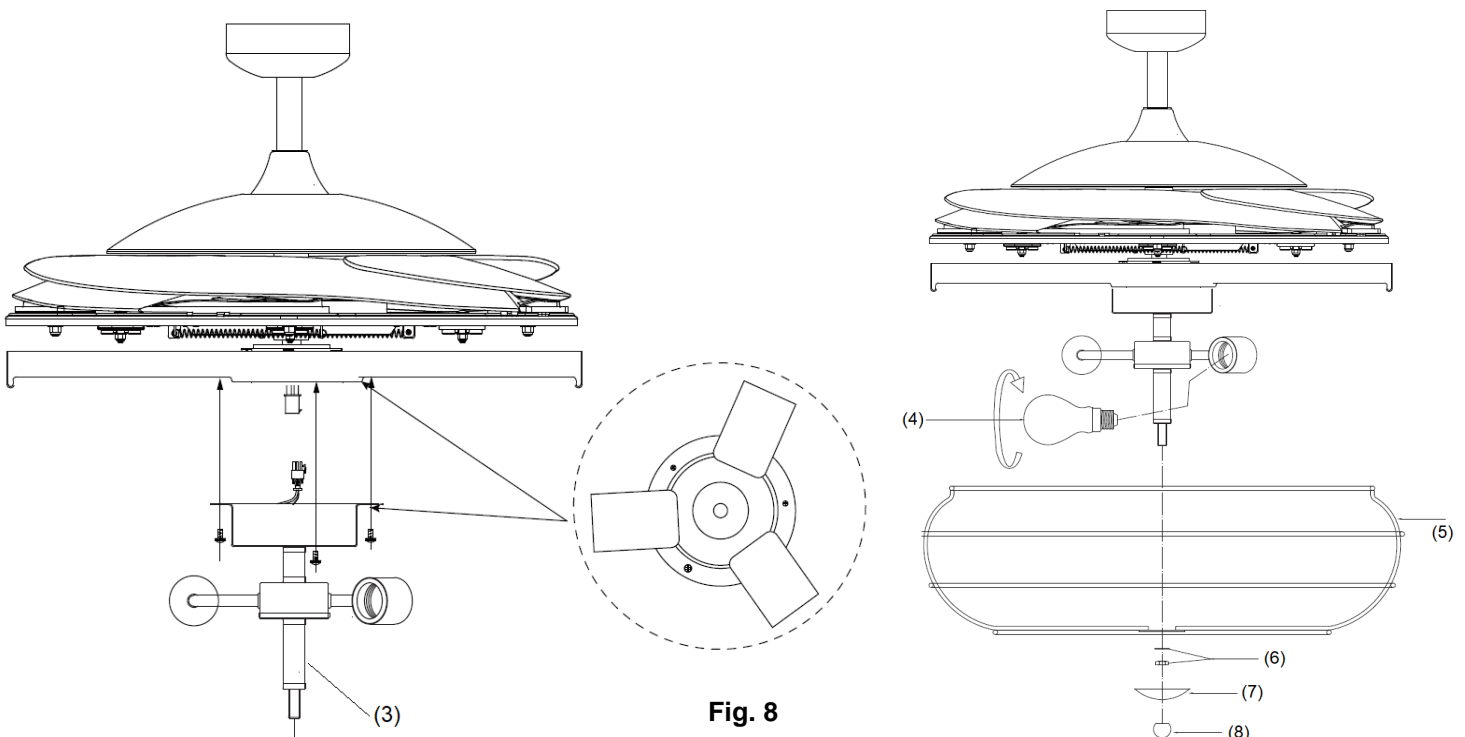

Fig. 8
4. Connect the quick connector to the lamp holder part (3). (Fig. 8)
5. Secure the lamp-holder part (3) to the light kit bracket by tightening the 3 screws. Do not over-tighten.
6. Install the globes (4) to the lamp holders. Do not exceed the maximum power rating.
7. Install the lamp shade followed by the washer and the nut (6). Tighten the nut (6).
8. Install the decorative cover (7) by tightening the nut (8).